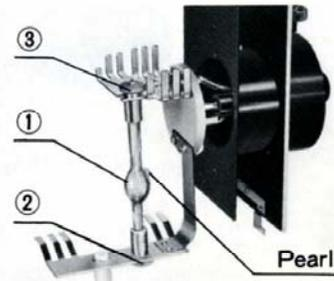

Fig. 6
- 3) Insert the lower electrode (marked with "+") into the bottom terminal and tighten with clamping nut ②, then insert the upper electrode into the slot of the upper mounting terminal, and lock with clamping nut ③. Be sure to turn the pearl on the burner envelope ① 90° away from the optical axis. (Fig. 6)